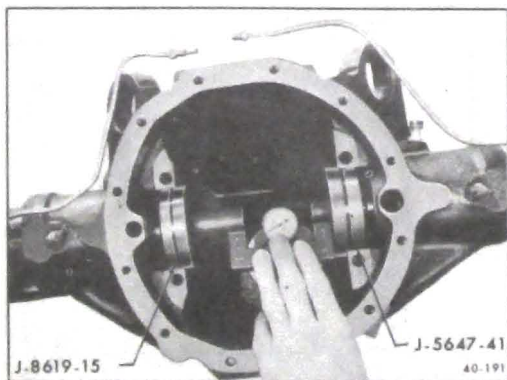

Figure 40-194 - Measuring Pinion Depth
9. Press gage yoke down firmly against gage plate and record the number of thousandths registered on the dial. See Figure 40-194. Remove indicator gage and recheck "zero setting" on master gage to insure against error.